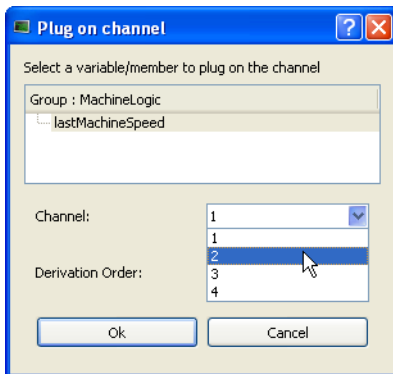

Figure 4-83: Plug on channel dialog box - PLC Variable Parameters
2. Set Channel to **2**(because channel 1 is already plugged). (Figure 4-83)